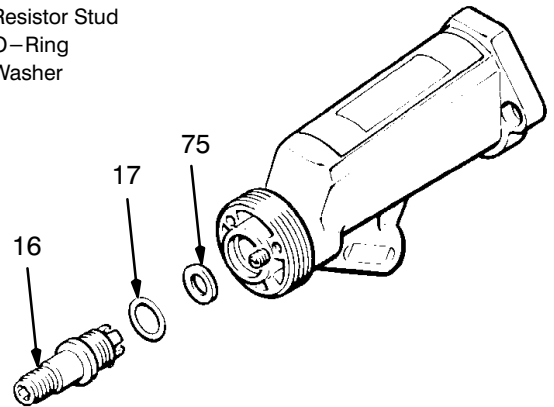

Fig 11
3. Using the wrench (59h) supplied, unscrew and remove the resistor stud (16) with the o–ring (17) and washer (75). See Fig 11.